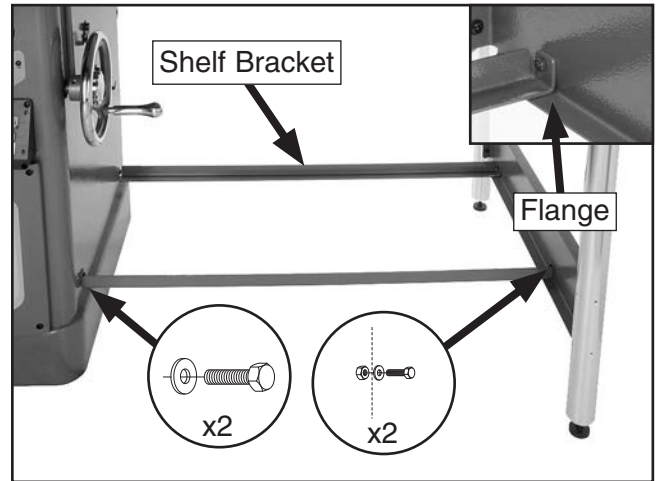

Figure 35. Shelf brackets installed.
- Place the shelf brackets between the cabinet and support legs, and fasten with (4) M6-1 x 12 hex bolts, (4) 6mm flat washers and (2) M6-1 hex nuts, as shown in **Figure 35**.